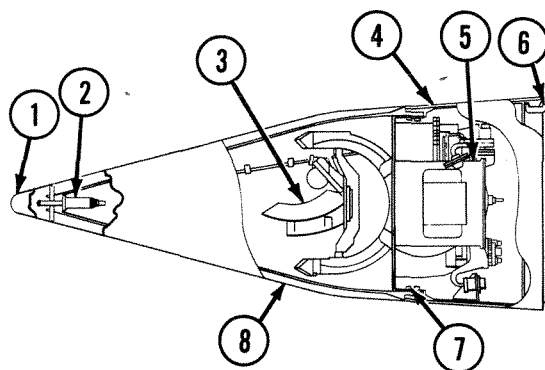

Figure 2-11. RS Major Features
e. RS. The two main assemblies of the RS are the support structure and the radome. Figure 2-11 shows RS major features.